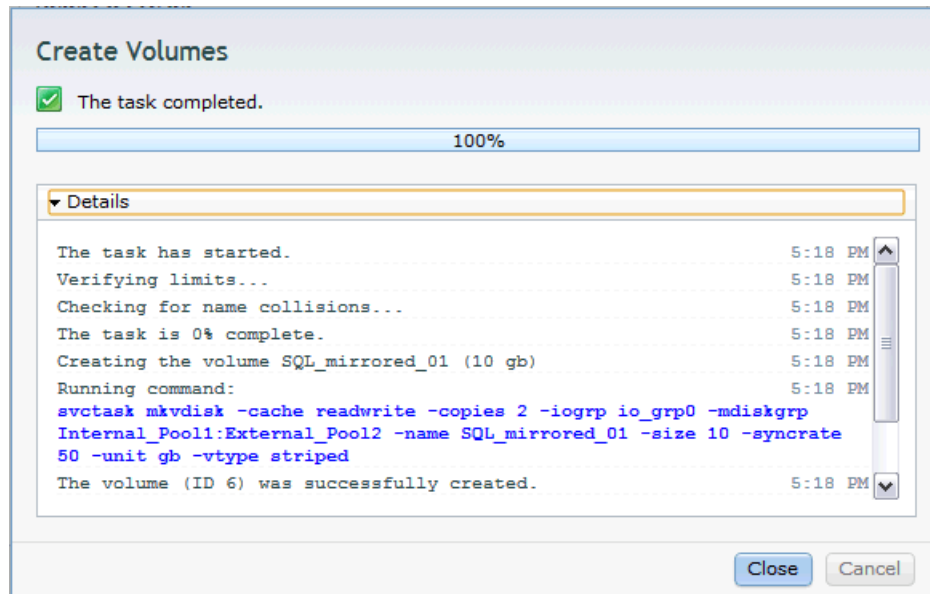

Figure 6-14 Create a mirrored volume - CLI command displays
6. Click **Create** and the mirrored volume is created (Figure 6-14).